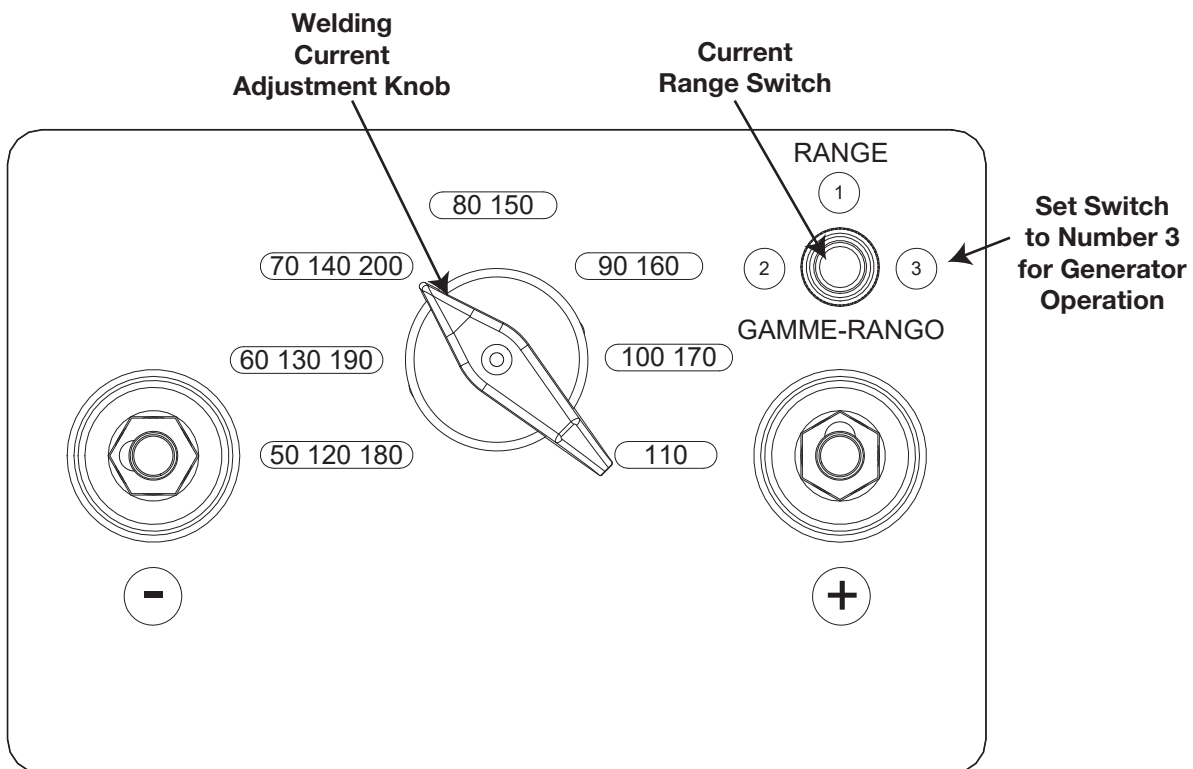

Figure 6 Control Panel
**THE CURRENT RANGE SELECTOR SWITCH (LOCATED AT THE TOP RIGHT OF THE ALTERNATOR CONTROL PANEL) MUST BE SET TO NUMBER 3 (FAR RIGHT POSITION) FOR 120VAC & 240VAC OPERATION. REFER TO FIGURE 6 (PAGE 13)**
4. Set the desired current range with the range selector switch located at the upper right hand corner of the Alternator control panel. Refer to Figure 6 (page 13). White number ①, indicates low range, Black number ② for medium range, and Red number ③, for high range.
5. Set the welding current adjustment knob (see figure 6) to the proper amperage for the electrode diameter. Refer to the electrode manufacturer for proper current settings.